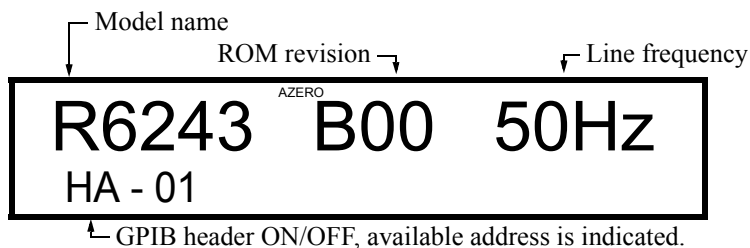
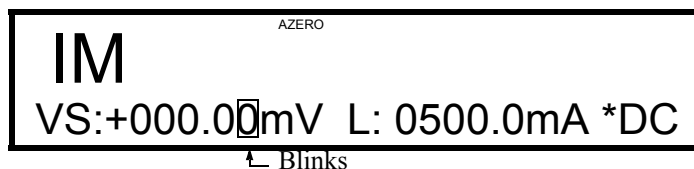

Figure 1-7 Display when Self test is Completed
Figure 1-8 Start-up Screen
If the Start-up test finishes correctly, the model name, ROM version, line frequency, and GPIB address appear on the display. (Refer to Figure 1-7) Then the start-up screen appears. (Refer to Figure 1-8)
1. Depending on the model and the preset conditions, the displayed contents may differ from those shown in Figure 1-8.